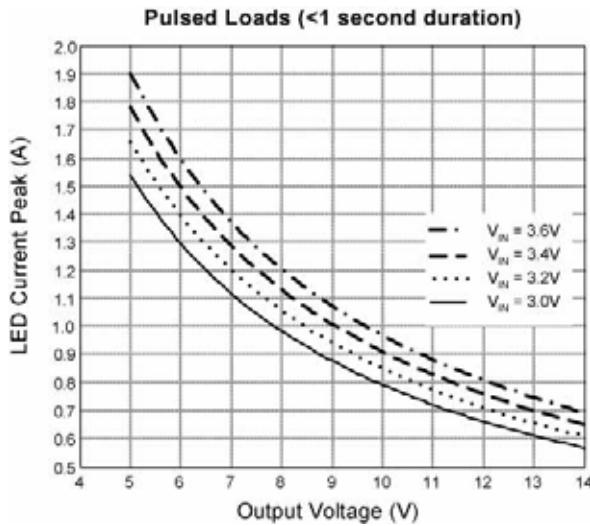

Figure 8. Peak Output Current vs.  $V_{OUT}$
The SOA (safe operating area) of the MIC2299 is shown in the typical characteristics section. This graph represents the maximum continuous output power capability of the part when used on a minimal evaluation board layout. This is a 2 layer board of 1 ounce copper, utilizing the bottom layer as a ground plane heat sink. The total area of the GND copper is approximately 1.3 square inches. This approaches a thermal resistance of 45°C/W. An alternative layout with more copper area for heat sinking will increase the area under the SOA curve. Note that the SOA is for continuous power and not peak power and is effectively a thermal limitation. The SOA is true for a time constant of approximately >1 seconds. Therefore, any load transient with a period of < 3s can exceed the SOA curve power up to a maximum limited by the current limit of the MIC2299. Figure 8 shows the theoretical output current limit of the MIC2299 using the Evaluation Board inductor value of 2.2µH with a DCR 50mΩ.
- The time constant of the driver is <3 seconds, so we can look at the peak current capability of the driver in Figure 8.
- Looking at Figure 8, the MIC2299 can achieve more than the required 800mA peak current at 8.4V